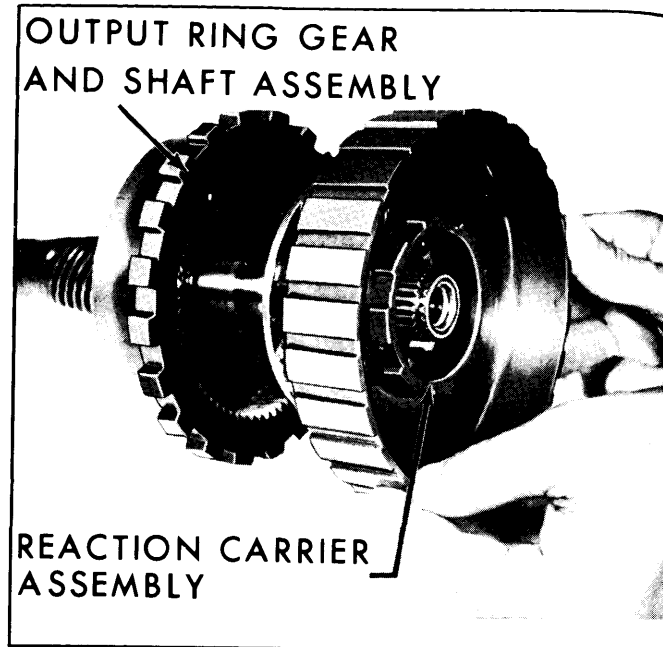

Fig. 7-47—Removing Reaction Carrier Assembly
16. Remove reaction carrier assembly from output ring gear and shaft assembly. (Fig. 7-47)